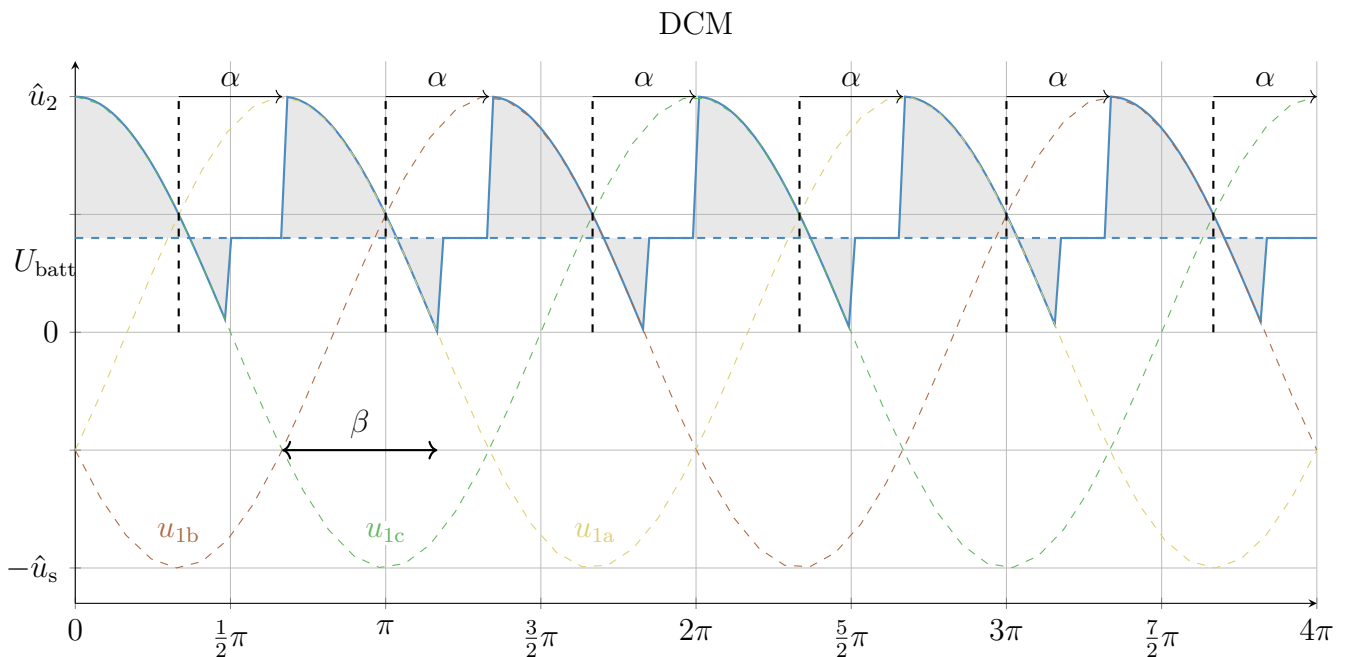

Figure 6: M3C voltages in DCM.
3.5 Consider the case where the inductance L is finite, such that the converter operates in DCM. For an output voltage u_2 where $\alpha = \frac{\pi}{3}$ and $\beta = \frac{\pi}{2}$, as shown in Fig. 6, calculate the average output voltage \bar{u}_2 . [3 Points]